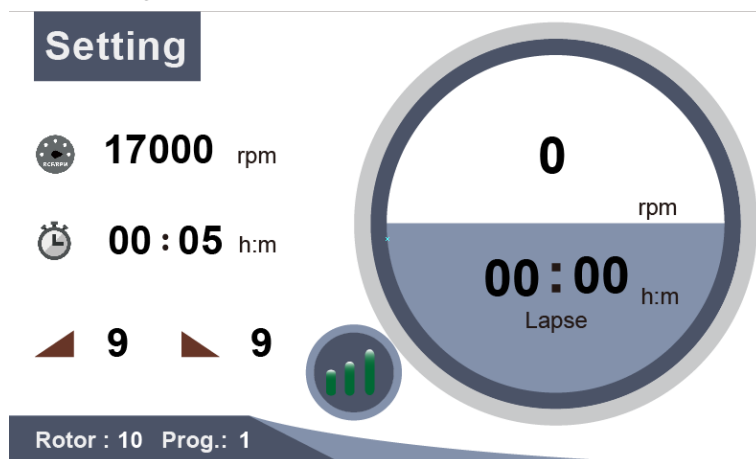

Figure 7-2 Preparation mode interface
■ This centrifuge will move to a preparing screen after passing the self-checking step, and display the running parameters of the last time. For example, the Figure 7-2 shows that the speed was set to be 17000rpm, the running time was 5 minutes, the acceleration rate was 9, the deceleration rate was 9, the rotor ID was 10, and the program group number was 1.
Figure 7-2 is only an example. User's setting parameters and running parameters may be different from that in the figure.